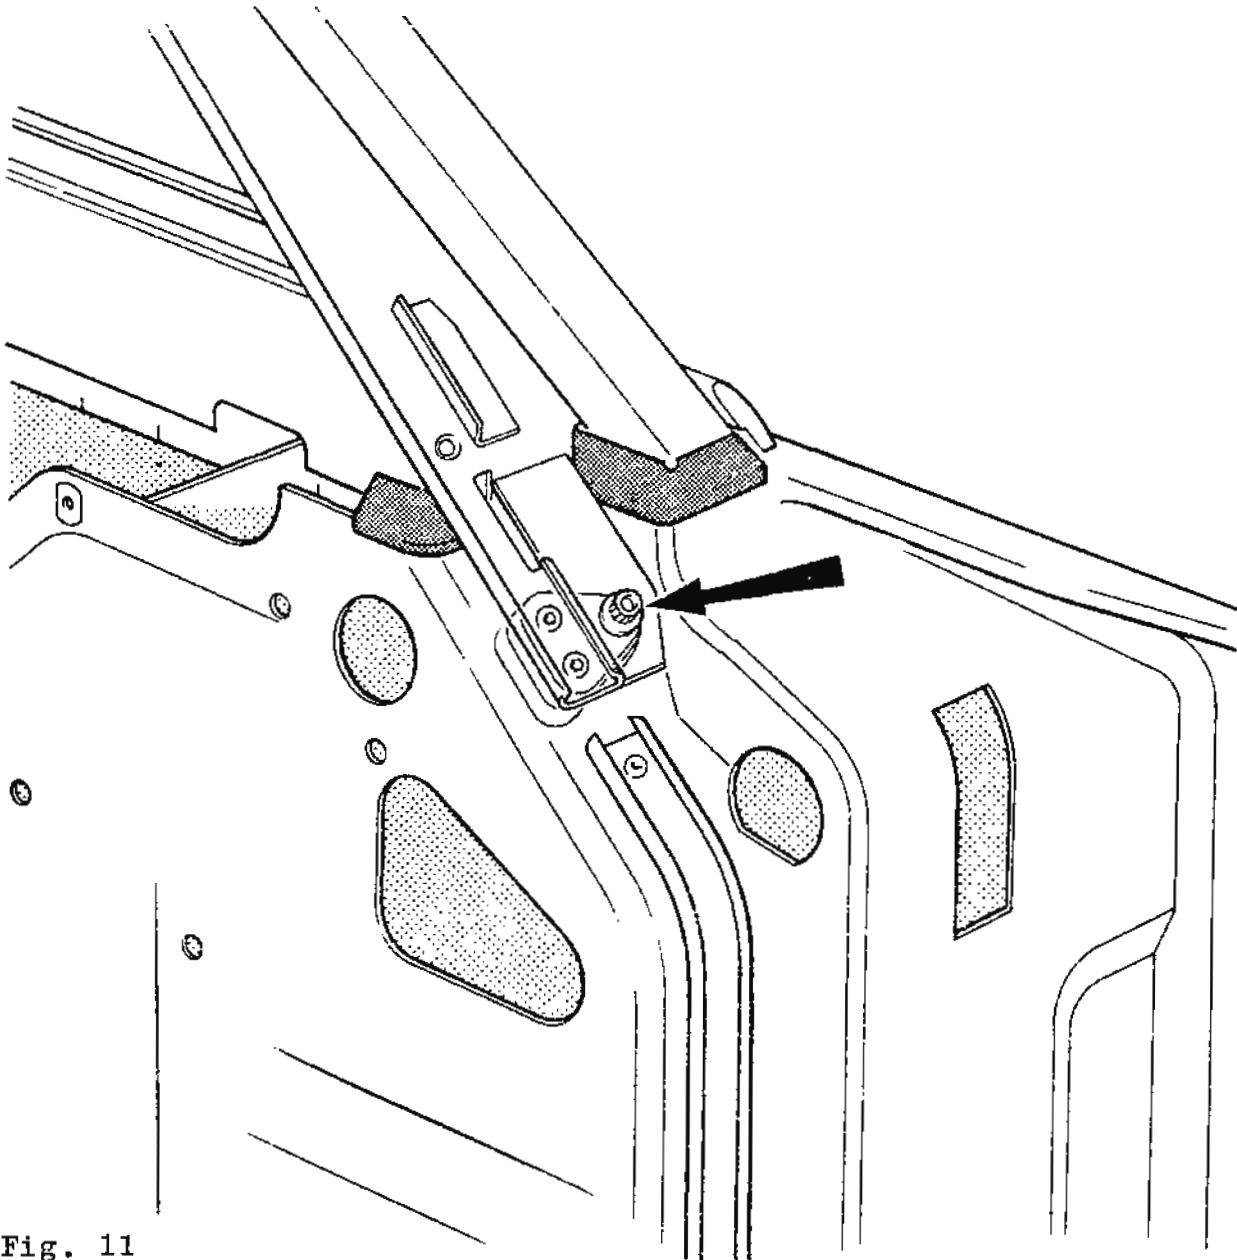

Fig. 11
26. Refit the tapping block and spacer and secure with setscrews as shown in figure 11.